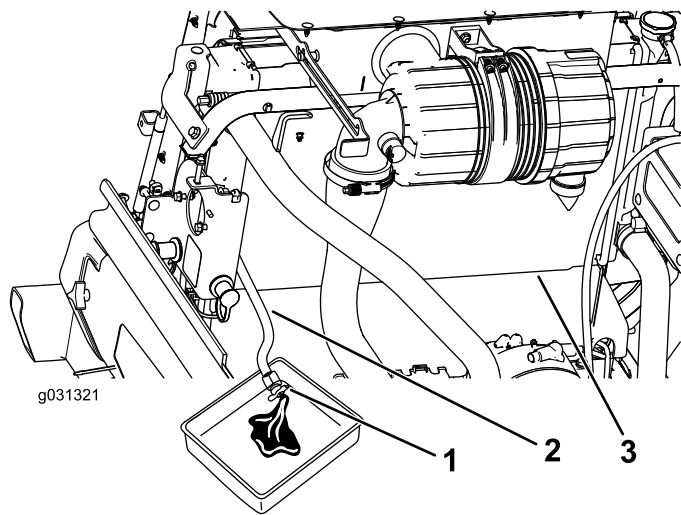

Figure 90
3. With the radiator drain hose placed in a drain pan, open the drain valve on the radiator hose and drain the fluid into a drain pan (Figure 90).
4. Close the valve on the radiator drain hose (Figure 90).